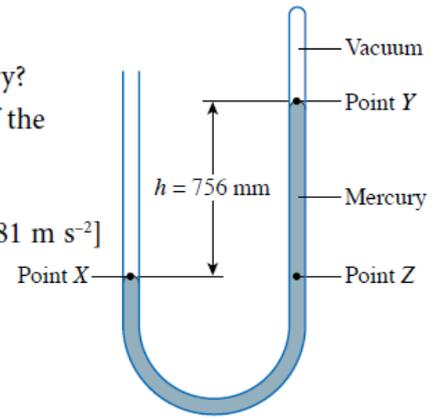

Figure 2
4. Figure 2 shows a U-tube containing mercury.